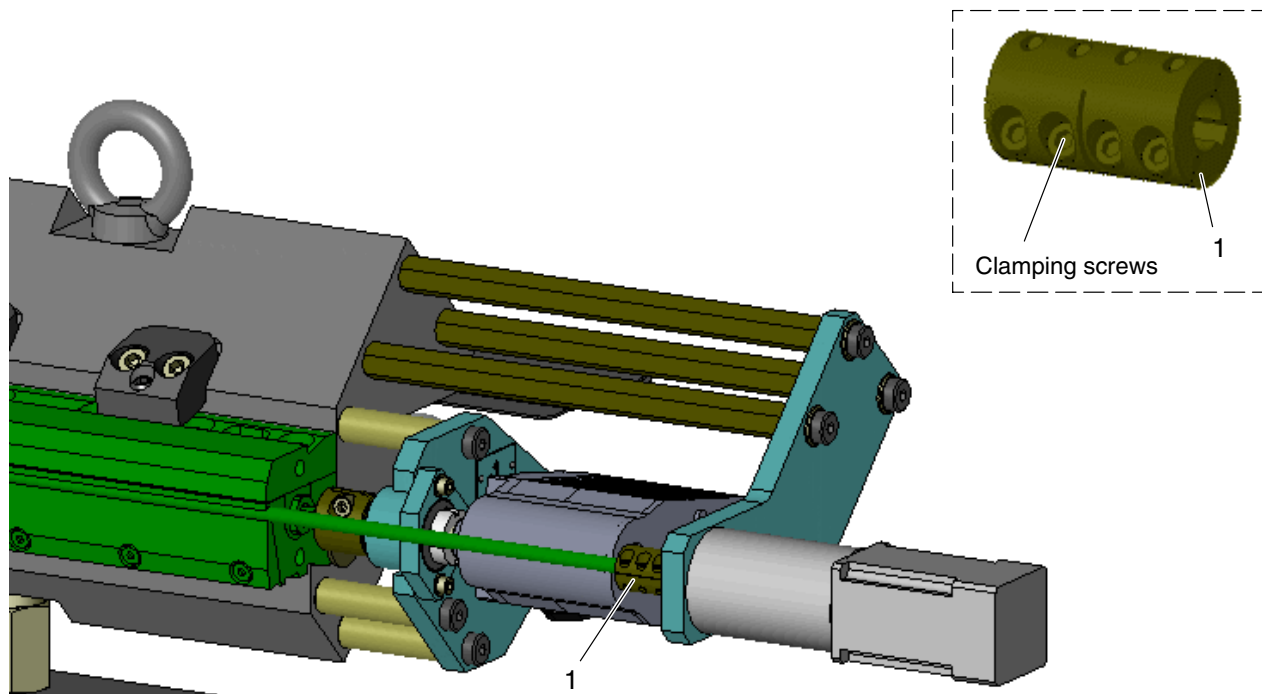

Fig. 62
2. Release the clamping screws from the doctor roll coupling (1, Fig. 62).
But before extracting the nozzle assembly, disconnect the doctor roll from its motor. Do this by switching off the motor and releasing the coupling (1, Fig. 62).